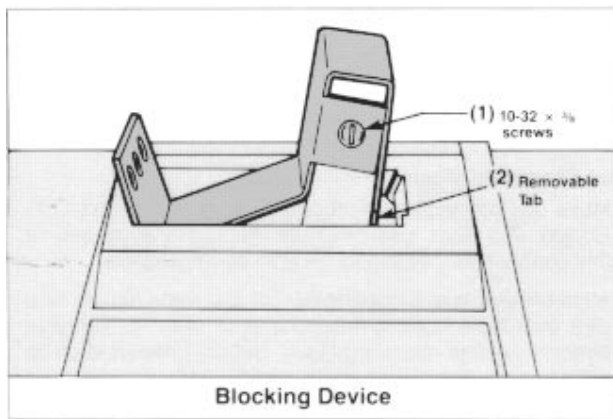

Figure 1
- C. Loosen the two screws (1) (#10-32 x 3/8 in.) so that the blocking device can be positioned and fully seated over the toggle handle, as shown in Figure 1.